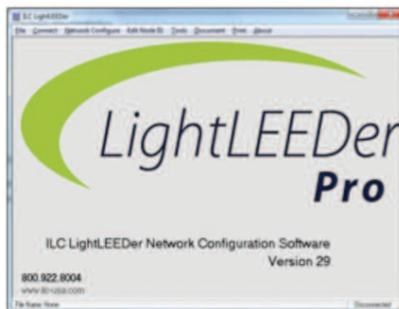

Figure 1.3 Opening Screen
Locate the icon created during the installation on your desktop and double click on it to open the program as shown in Figure 1.3
**1.4.1 Opening Screen:** From this screen you can identify the software version you're running as shown in Figure 1.3. The lower left corner of the screen shows the current program file that is open (no file is open in the figure). The lower right hand of the screen shows the connection status (currently disconnected). The main navigation menu bar gives you the following options: